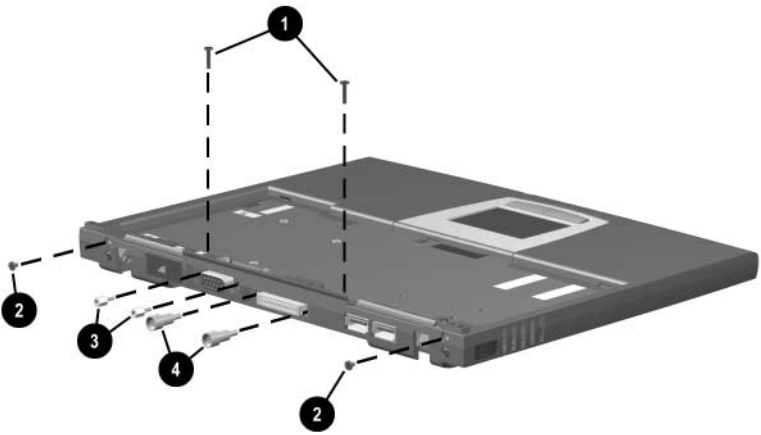

Figure 5-13. Removing the Top Cover Screws (Continued)
- ❑ two pewter TM2 × 8 screws ❶ that secure the top cover to the base enclosure (Figure 5-13)
- ❑ two black TM2 × 4 screws ❷ from the rear panel
- ❑ two 5.0 mm screwlocks ❸ on each side of the external monitor connector
6. Use a 9/64" hex wrench to remove the two bushing guides ❹ on each side of the docking connector.